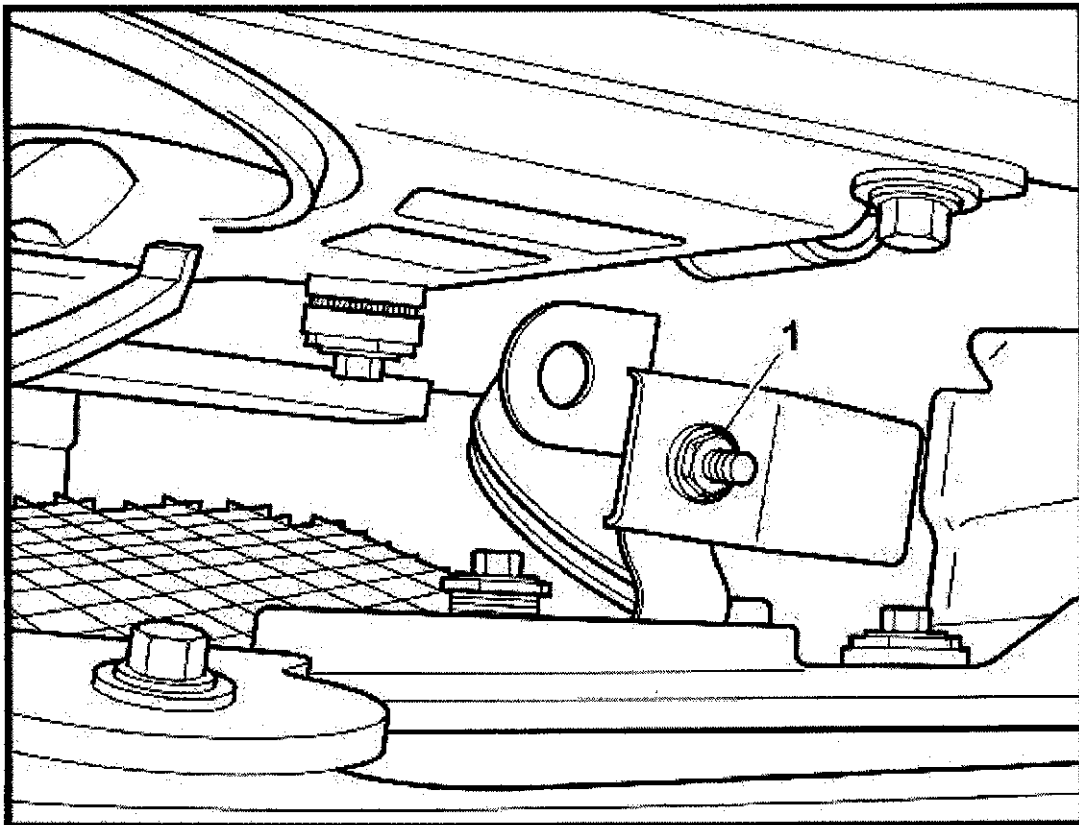

Figure 1
2. From beneath the vehicle remove the two fasteners (1). You can access these behind the bumper moulding (see Figure 1)
17. Raise the car up on the ramp to access the lower studs and fasten with two bolts (see Figure 1)